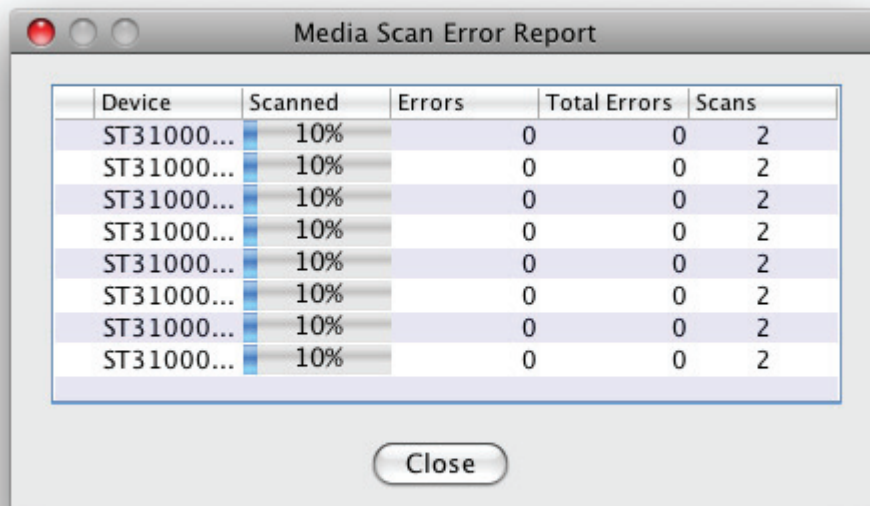

Figure 27
5. A **Media Scan Error Report** message box appears with the scan results. See **Figure 27** on page 31. If a scan is currently in process, the Scanned column indicates the percent complete for the operation.